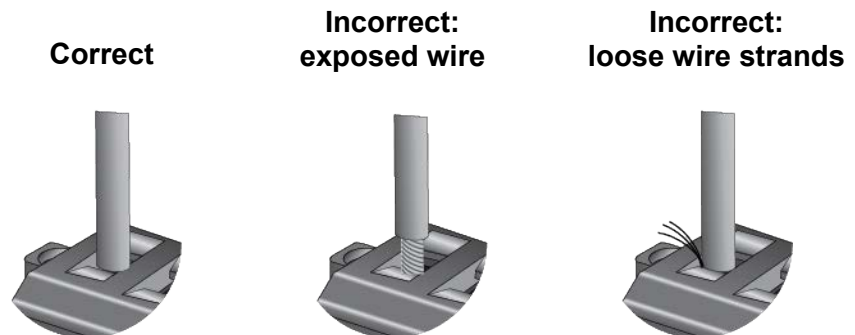

Figure 59. Verifying the Wires on the ALARM IN / ALARM OUT Plug
- Verify that there are no exposed wires or loose wire strands. Refer to Figure 59.